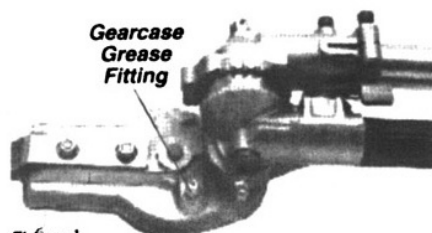

Figure 1
- Lubricate the cutter assembly gearbox by pumping one or two strokes of lithium-base grease into the grease fitting using a lever-type grease gun. See Figure 1.